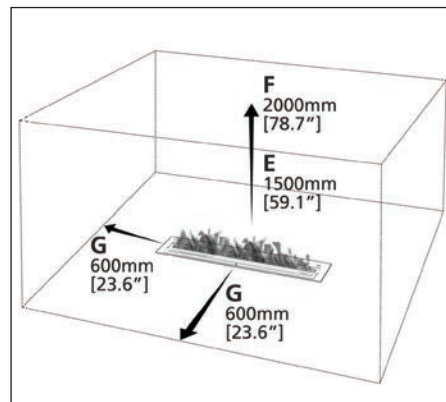

Fig. 4
B. BURNER PLACEMENT “WITHOUT A FIREBOX” (Fig.4)